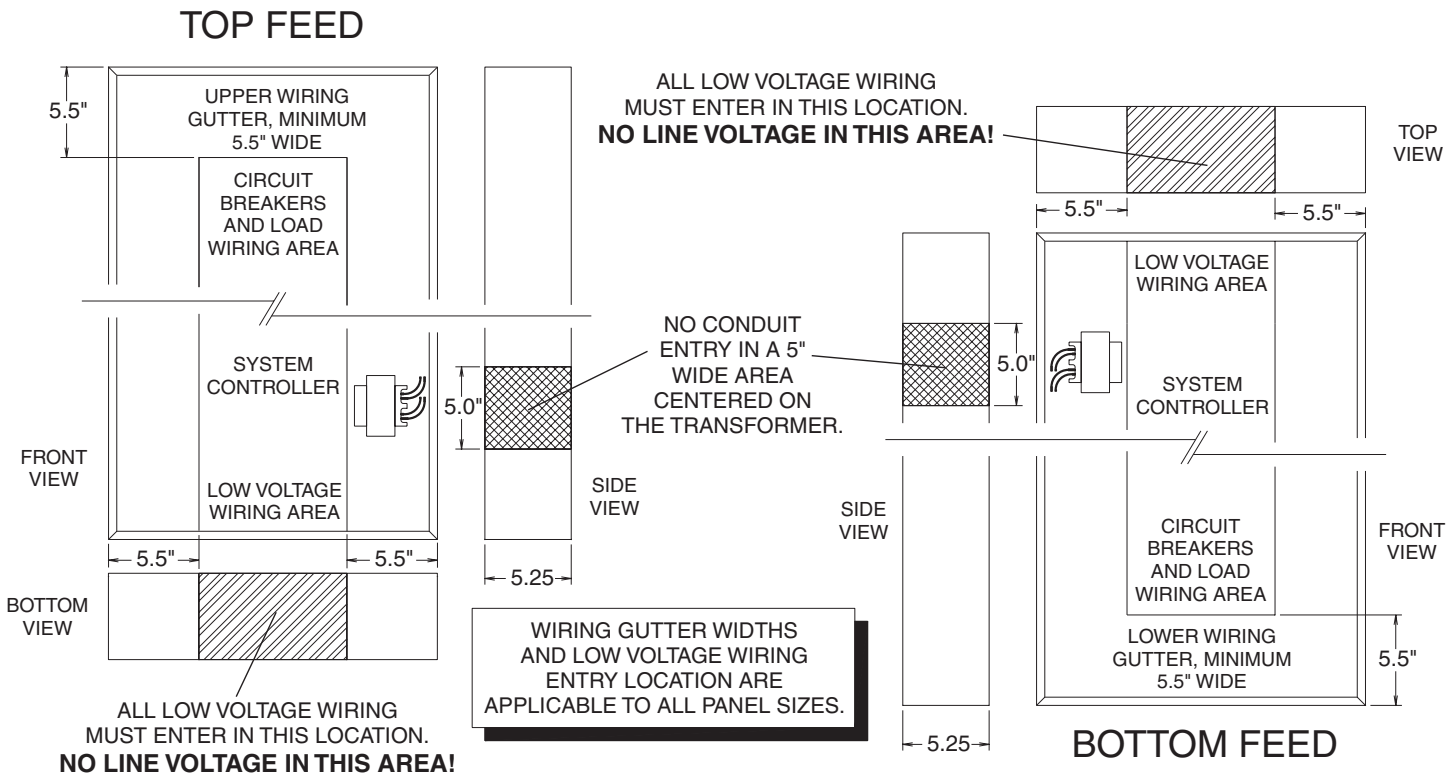

Figure 1 - Conduit and Cable Entry
5. Do not install conduit where "No Conduit Entry" is shown in *Figure 1*.
2. Once the feed orientation is determined, punch the conduit entrance holes for both high and low voltage conductors. The main feed and low voltage conductor entrances will ALWAYS be at opposite ends of the enclosure. (See *Figure 1* for details)